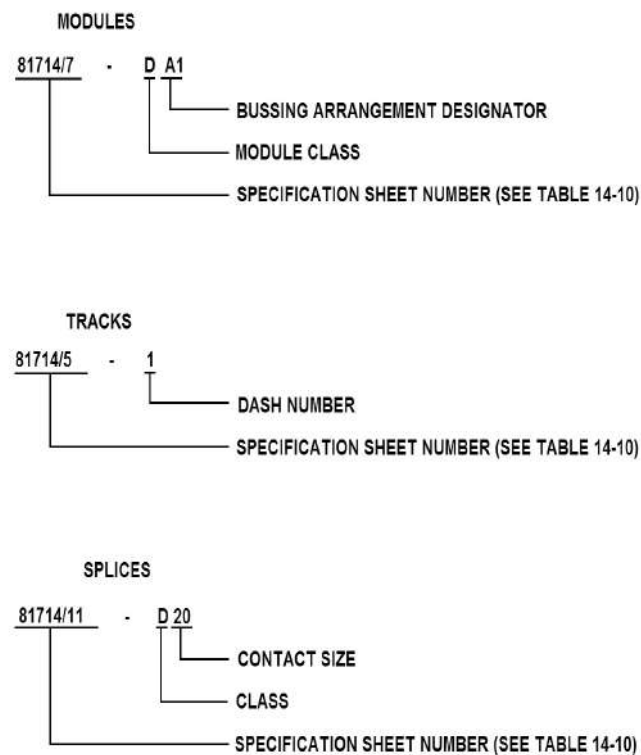
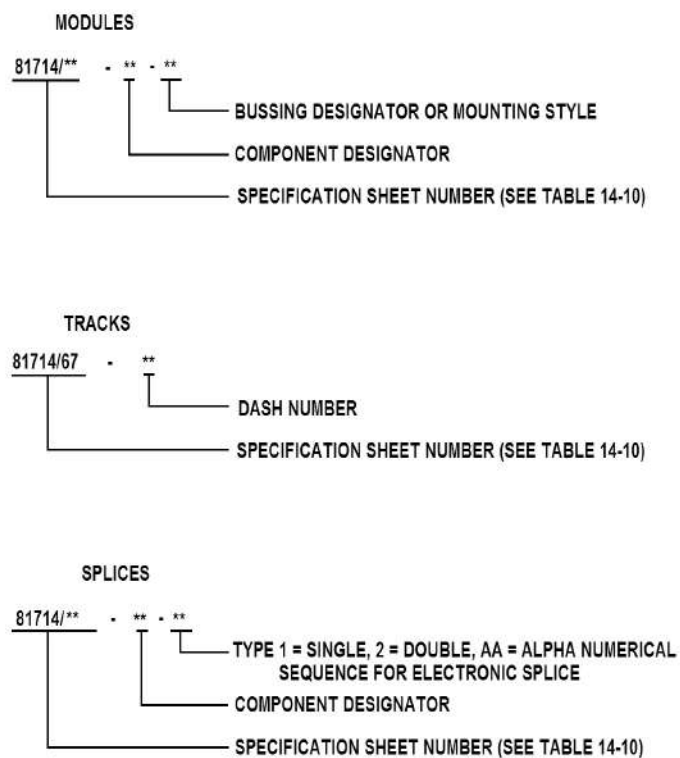

Figure 4-41 Components of Terminal Junction System – Series I
Figure 4-42 Components of Terminal Junction System – Series II
94. The components of the terminal junction system are identified in Figure 4-41 for Series I, and Figure 4-42 for Series II. For actual part number breakdown see MIL-T-81714 specification sheets.